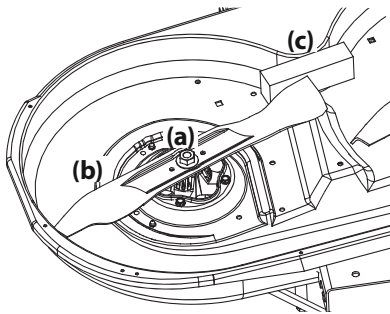

Figure 46
2. Use a  $\frac{15}{16}$ " wrench to hold the hex nut on top of the spindle assembly when loosening the hex nut (a) securing the blade (b). A block of wood (c) may be placed between the deck housing and the cutting edge of the blade (b) to help in breaking loose the hex nut (a) securing the blade. See Figure 46.